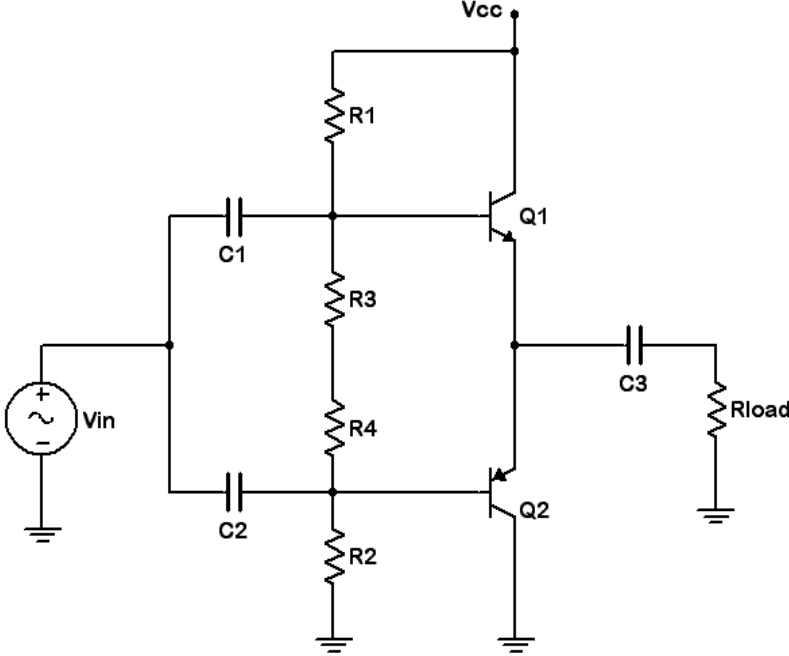

Figure 13.1
1. Consider the circuit of Figure 13.1 using  $V_{cc} = 6$  volts,  $R_1 = R_2 = 2.2$  k $\Omega$ ,  $R_3 = R_4 = 220$   $\Omega$ ,  $R_{load} = 100$   $\Omega$ ,  $C_1 = C_2 = 10$   $\mu$ F and  $C_3 = 100$   $\mu$ F. Ideally this circuit will produce a compliance of just under 6 volts peak-peak.
2. Build the circuit of Figure 13.1 using  $V_{cc} = 6$  volts,  $R_1 = R_2 = 2.2$  k $\Omega$ ,  $R_3 = R_4 = 220$   $\Omega$ ,  $R_{load} = 100$   $\Omega$ ,  $C_1 = C_2 = 10$   $\mu$ F and  $C_3 = 100$   $\mu$ F. Disconnect the signal source and insert an ammeter into the collector of Q1. Record  $I_{CQ}$  in Table 13.1.